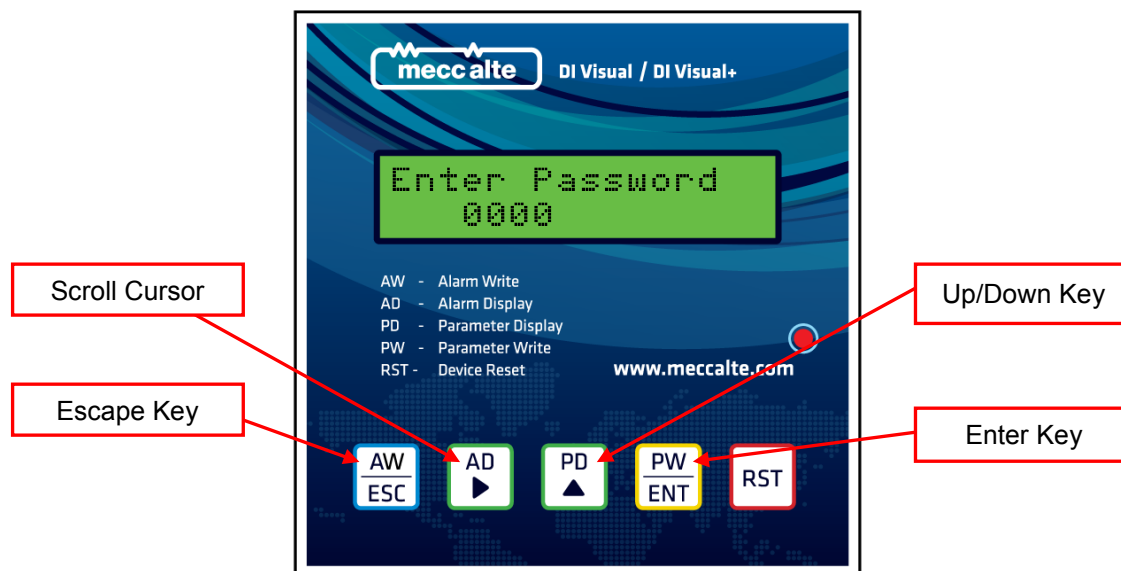

fig. 6
- 2) If you try to enter any setting the system will prompt for Password as shown in Fig. 6 below.
- 1) For changing the password keep the  key and  key pressed together after Power On or Resetting DI-Visual+ device where the system will prompt for existing password to be entered as shown in Fig. 6 above.